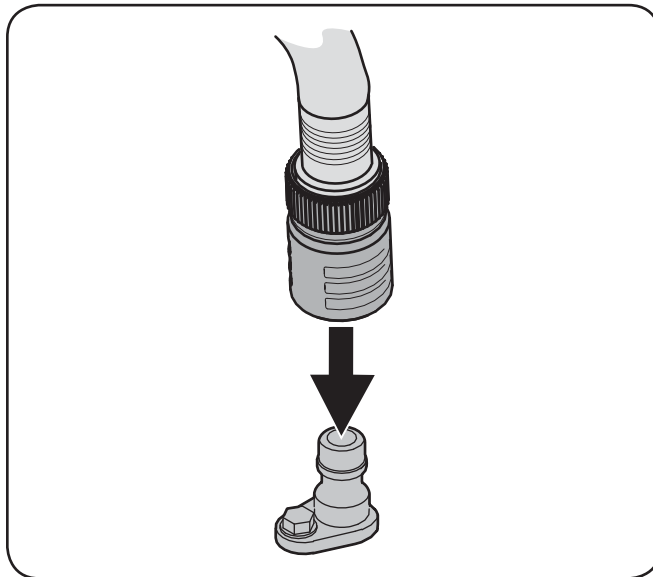

Figure 6-2
4. Attach the hose coupler to the water port on your decks surface. See Figure 6-2.